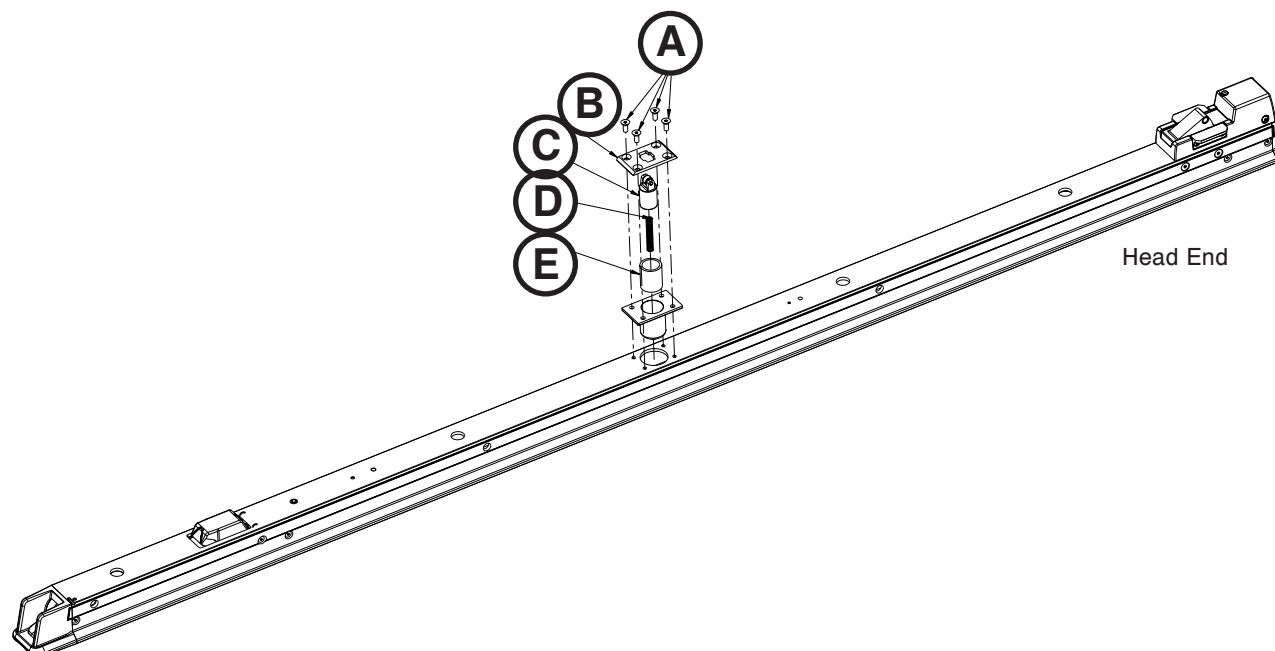

Figure 103
3. Using a 5/32" hex wrench, remove the four flat head cap screws (A) that secure the transfer lock cap to the anchor extrusion (Figure 103).
4. Remove the transfer lock cap (B) (Figure 103).
5. Remove the transfer lock pin assembly (C), compression spring (D), and bronze bearing (E) from the anchor extrusion (Figure 103). Discard the bronze bearing.
6. Clean the transfer lock pin assembly (C) and spring (D) thoroughly (Figure 103).
7. Install the new bronze bearing (E), compression spring (D), transfer lock pin assembly (C) into the anchor extrusion (Figure 103).
8. Using a 5/32" hex wrench, reinstall the four flat head cap screws that secure the transfer lock cap (B) to the anchor extrusion by just starting each screw first and then tightening all four (Figure 103).